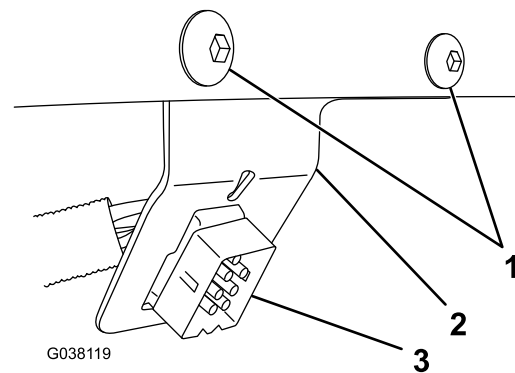

Figure 11
7. Pull the plow controller connector into the vehicle cab (Figure 11).
8. Mount the plow controller connector to the dash bracket, and secure the bracket to the left of the steering wheel using 2 self-tapping bolts (Figure 11).